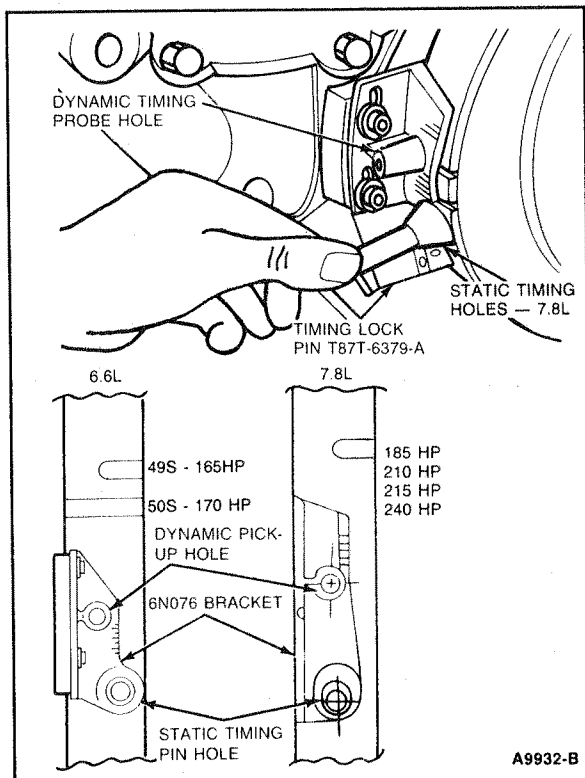

Figure 16 Fitting Timing Pin Into Crankshaft Damper
1. Rotate engine clockwise. Set engine at correct static timing angle with No. 1 piston on the compression stroke. Fit Timing Lock Pin T87T-6379-A through the timing bracket into the correct crankshaft damper groove (Figure 16).